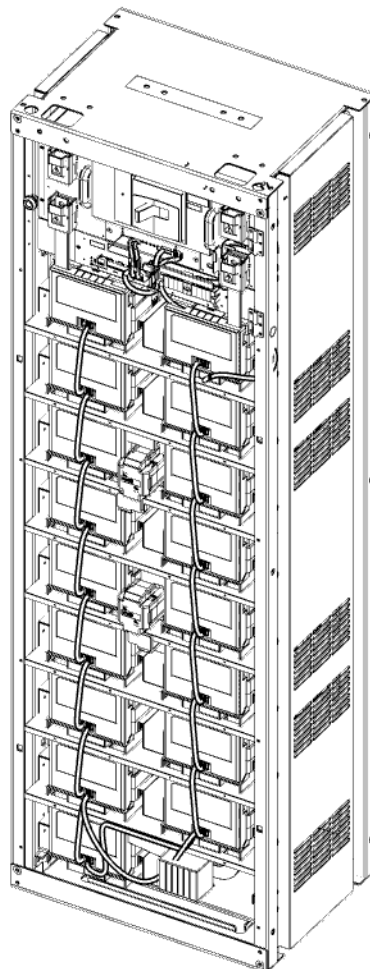

Figure 1: 34.6kWh Lithium Ion Energy Storage System
- The battery module box should be upright as in Fig. 1 below. Do not stack or place upside down when storing the battery module box.